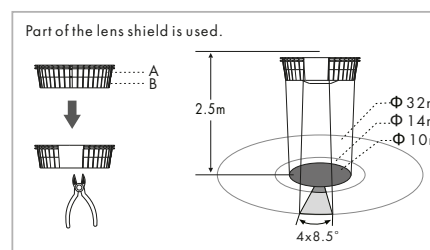

FIG. 16
- 4.2.1 PD00F01KNX has provided 3 lens shields for masking the undesired detection area (See FIG. 16).
- The shadow part of the lens shields in the FIG. 16 is referring to the cutoff parts.